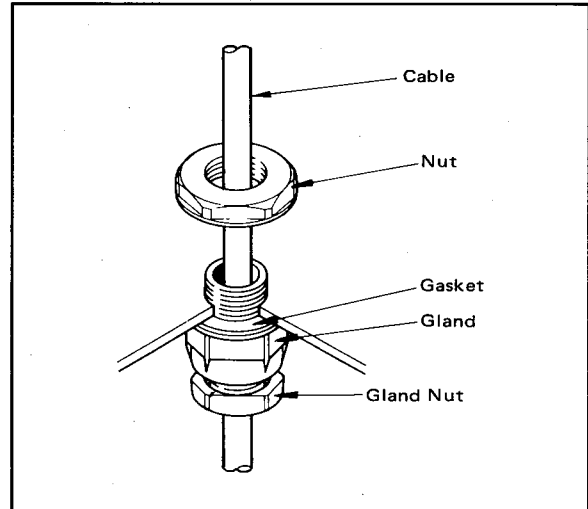

Figure 2-14. Cable Gland Installation.
- (4) Mount the cable gland in the wiring hole (see Figure 2-14). Attach the nut in position and tighten the gland firmly. When tightening the gland nut, be careful not to twist the cable. When the gland is mounted, tighten the gland nut firmly on the gland to keep out moisture. However, if the gland nut is screwed too tight, the cable may be damaged.